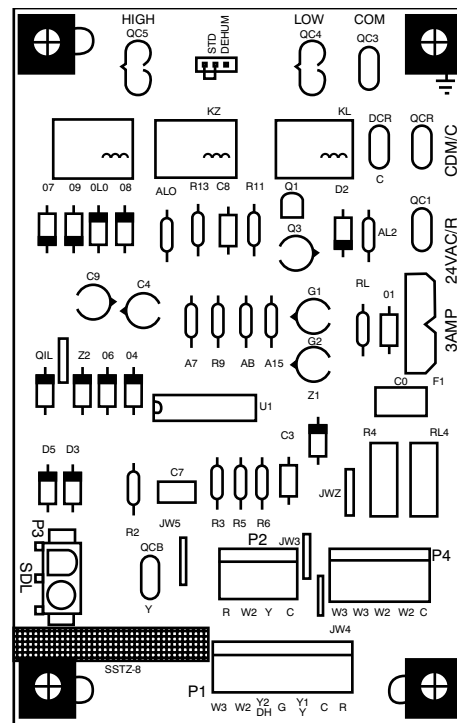

Fig. 16 – Interface Fan Board (IFB)
The cooling speed is marked “LOW” on the interface fan board (IFB) (See Fig. 16). The factory-shipped settings are noted in Table 6. There are 4 additional speed tap wires available for use in either electric heating or cooling (For color coding on the indoor fan motor leads, see Table 5). The additional 4 speed tap wires are shipped loose with vinyl caps and are located in the control box, near the interface fan board (IFB) (See Fig. 16).
2. Remove the current speed tap wire from the “LOW” terminal on the interface fan board (IFB) (See Fig. 16) and place vinyl cap over the connector on the wire.
1. Using Fig. 16, move the two pin DEHUM jumper from the “STD” position to the “DEHUM” position.
2. Remove fan speed tap wire from the “LOW” terminal on the interface fan board (IFB) (See Fig. 16).
When the DEHUM feature is not used, the continuous fan speed will be the same as cooling fan speed. When the DEHUM feature is used, the continuous fan will operate on IFB “LOW” speed when the DH control lead is not energized, or IFB “HIGH” speed when the DH lead is energized (see Fig. 16).